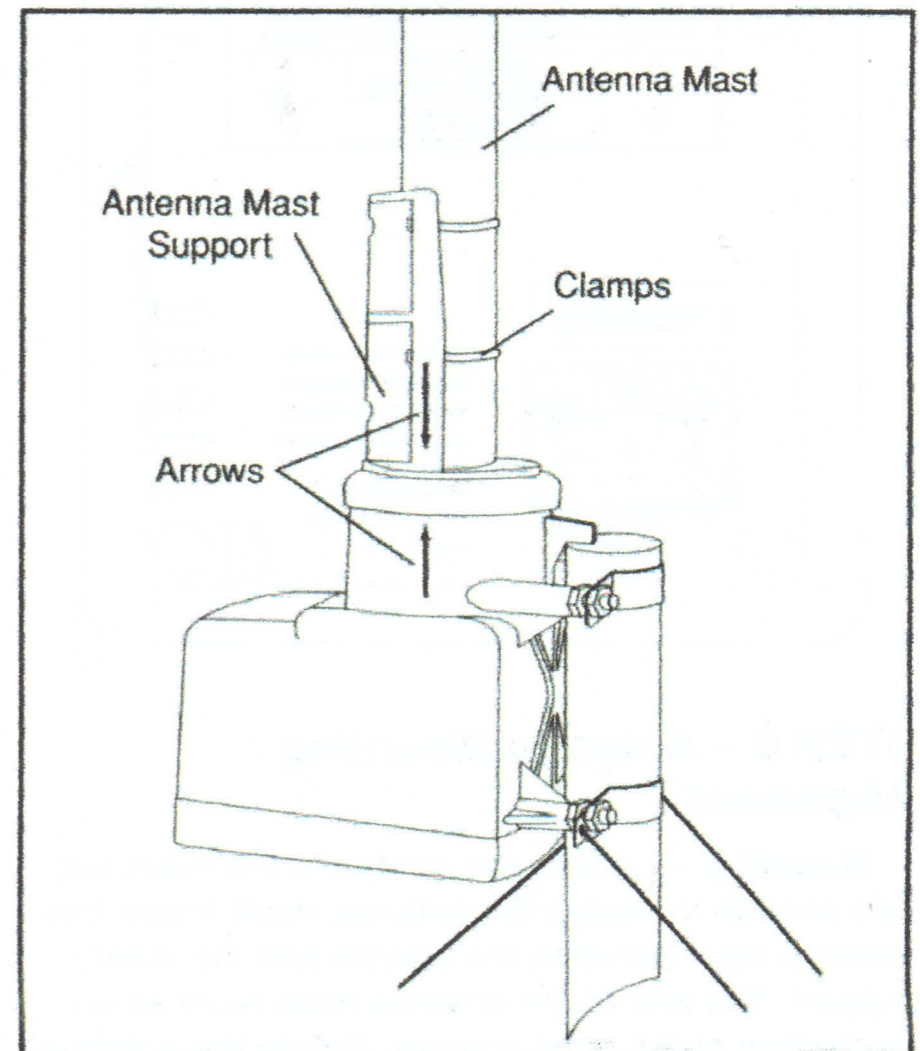

Fig. 4
- F. Hold the < button down until the rotator stops, then release button. The arrows molded in the antenna mast support section (FIG.4) and the body of the rotator unit should be aligned. This position represents the fully counterclockwise stop position. There is also a fully clockwise stop position 360 degree opposite to this position.